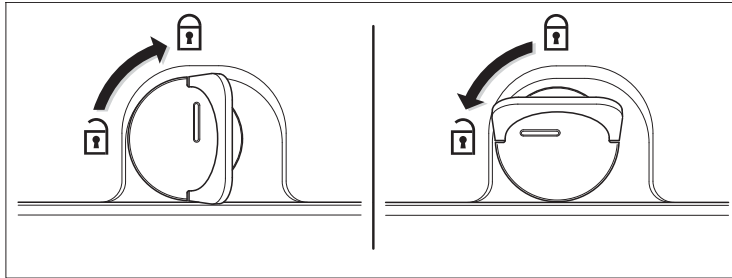

Fig. 1
- ◆ Open the locking system of the battery as shown in Fig. 1.